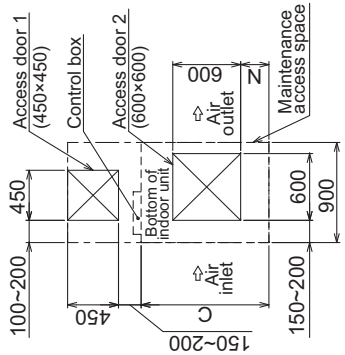

Fig.2 (Viewed from the direction of the arrow Z)
Create access door 1 (450x450mm) for the maintenance from the unit side when the thermistor, and control box is exchanged. (Fig.2,4)
(1) When a space of 300mm or more is available below the unit between the unit and the ceiling. Create access door 2 (600x600mm) for the maintenance from the bottom when the motor, fan, heat exchanger and drain pan is cleaned(exchanged). (Fig.2)